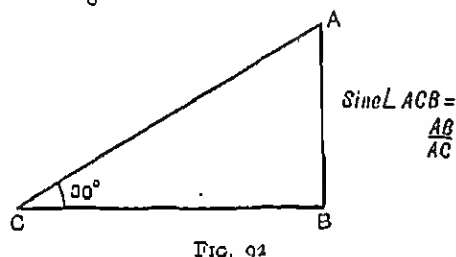

FIG. 92
**I. Introduction.**—The sine may be introduced by further study of the similar triangles obtained from sun shadows; or the children all draw a right-angled triangle with one of the other angles  $30^\circ$ , Fig. 92. The lengths used for the sides will vary but all the triangles drawn will be the same shape (cf. the sun shadow triangles). The name "similar triangles" can be given. The children are reminded about the tangent of the angle.